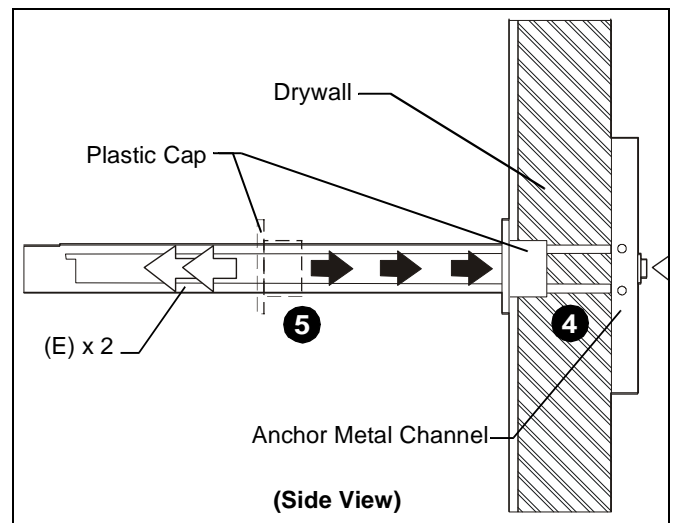

Figure 7
4. Holding plastic straps on anchor (E), pull anchor away from wall until channel rests flush behind wall. (See Figure 7)
5. Slide plastic cap on anchor (E) towards wall until flange of cap is flush with wall. (See Figure 7)